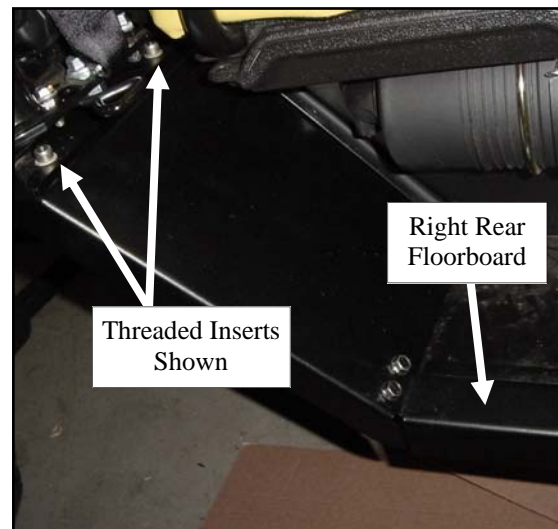

Fig. 12.1 (view of passenger's side rear shroud)
**12.1** Install the rear shroud on passenger's side as shown in figure 12.1. Loosely fasten to the rear panel using the hardware listed below. **Do not tighten at this time.**